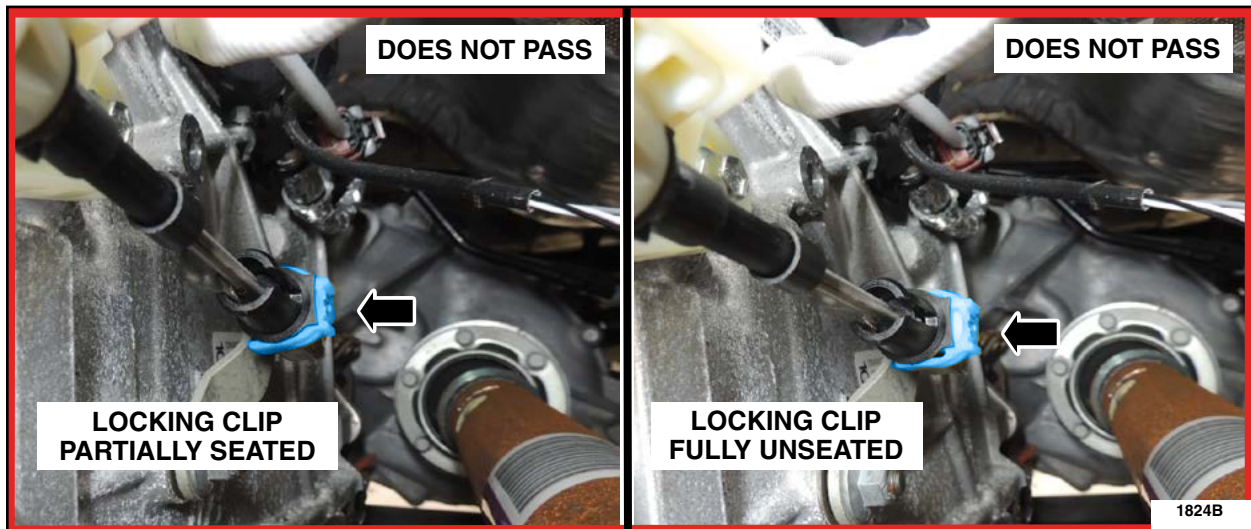

FIGURE 3
- If the cable adjuster locking clip is not fully seated as shown in Figure 3, proceed to Step 11.